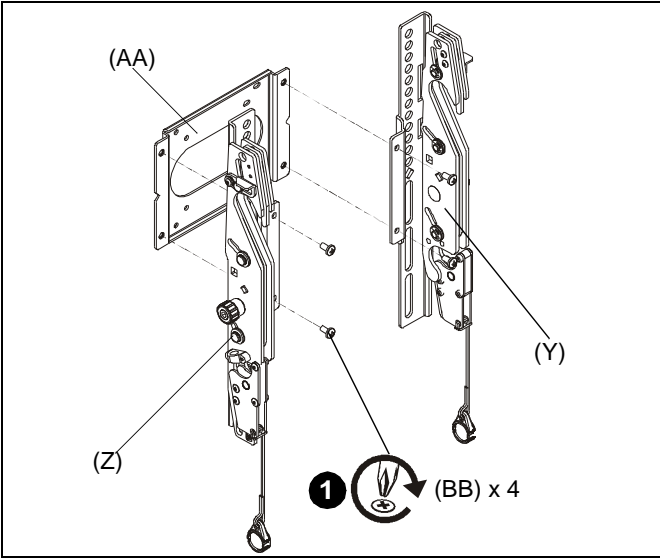

Figure 5
1. **(100x100mm and 75x75mm hole patterns ONLY)** Use four #10-24 X 3/8" Phillips pan machine screws (BB) to secure two interface brackets (Y and Z) to adapter bracket (AA). (See Figure 5)